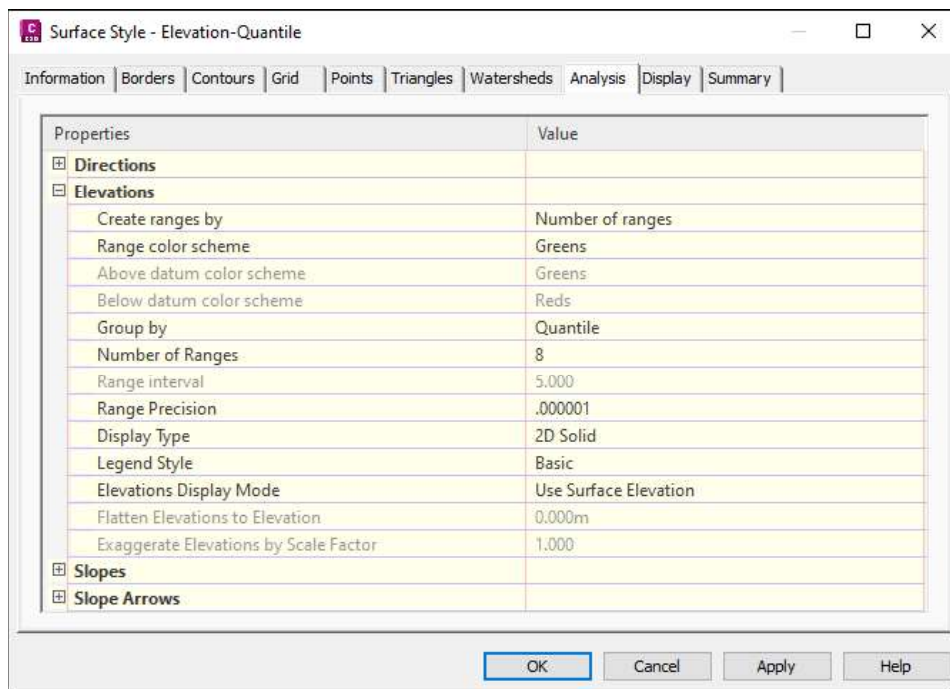

Figure 4-32 Properties in the **Elevations** category of the **Analysis** tab
7. Ensure that the values of the properties in the **Elevations** category match the values shown in Figure 4-32.